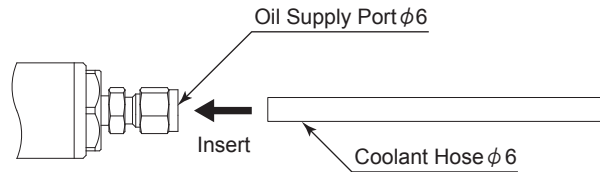

Fig. 18
- (1) Insert the Coolant Hose into the Oil Supply Port $\phi 6$ on the rear of the Brushless Motor Spindle (Fig.18).